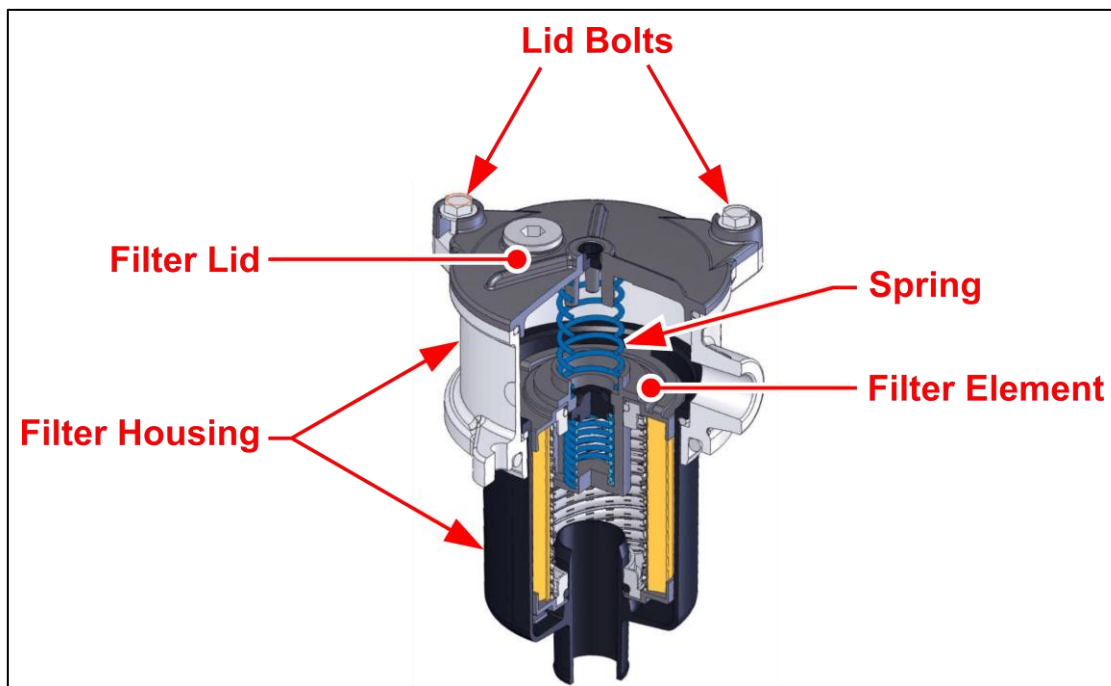

Figure 8.1: Return Line Filter
- Monitor the oil level in the oil reservoir and do not allow the oil level to fall below the minimum level marked by the lower indicator (18). Keep the oil reservoir topped up with high-quality ISO46 grade hydraulic oil. Retract all hydraulic cylinder(s) before filling the oil reservoir with ISO46 grade hydraulic oil.
- Oil should be replaced after approximately 500 working hours. Drain oil via drain plug (17)
- Check the return line filter 'clogging indicator' gauge (7) periodically. Replace the filter element when the gauge pointer is showing in the red sector. (See figure 8.1)